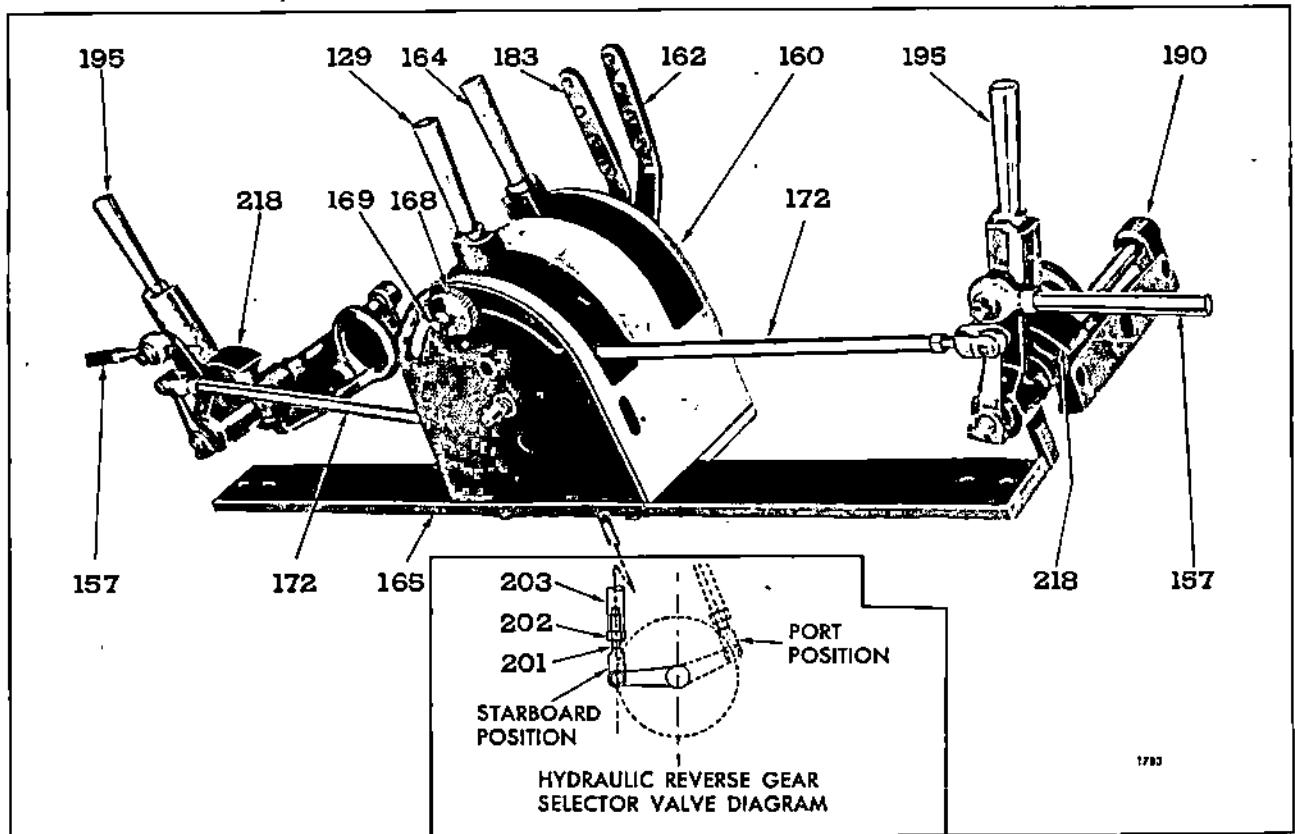
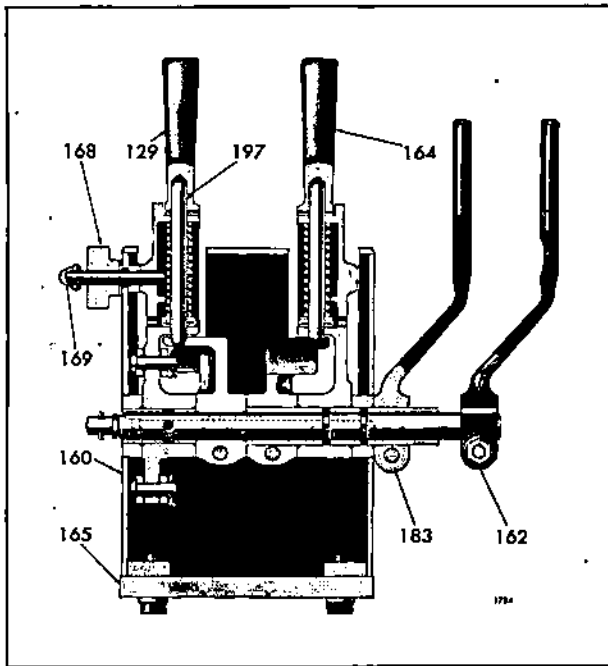

Fig. 33 - Arrangement of Throttle Levers on a Tandem Twin Marine Unit
Fig. 34 - Master Throttle Assembly on a Tandem Twin Unit
The tandem twin unit throttle and reverse gear control arrangement is shown in Figs. 33 and 35 and the master throttle control and individual throttle lever assemblies are illustrated in Figs. 34 and 36.
2. Move the master throttle lever (129) toward the FULL OPEN position until the two clevis pins in the upper and lower arms of the throttle lever shank are in a vertical straight line, as observed through the two holes on the side of the lever housing (160). Secure the throttle lever in this position with the knurled lock nut (168), Fig. 34.